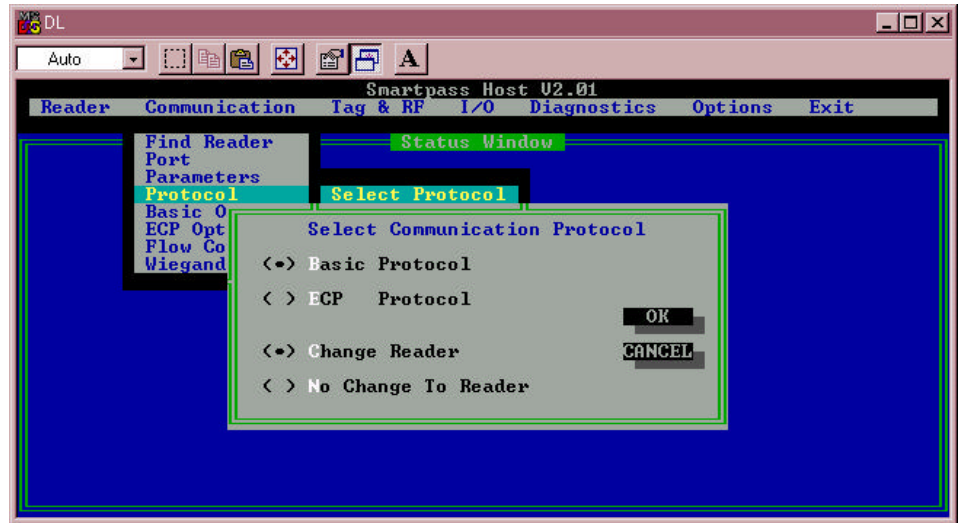

Figure 4-26 Select Communications Protocol Dialog Box
2. The **Select Protocol** option displays the **Select Communications Protocol** dialog box shown in Figure 4-26.